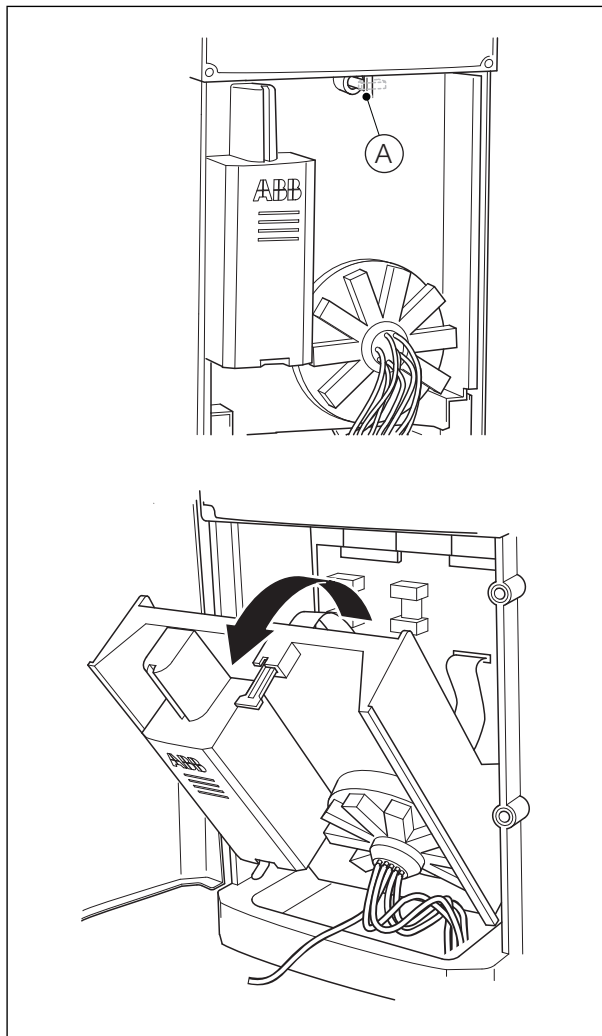

Fig. 13.8 Opening the Analytical Section
1. Referring to Fig. 13.8, turn handle (A) $\frac{1}{4}$ turn clockwise, pull the analytical section forward and allow it to rest against its stops.
1. Referring to Fig. 13.8, raise the analytical section to the upright position and secure with handle (A).